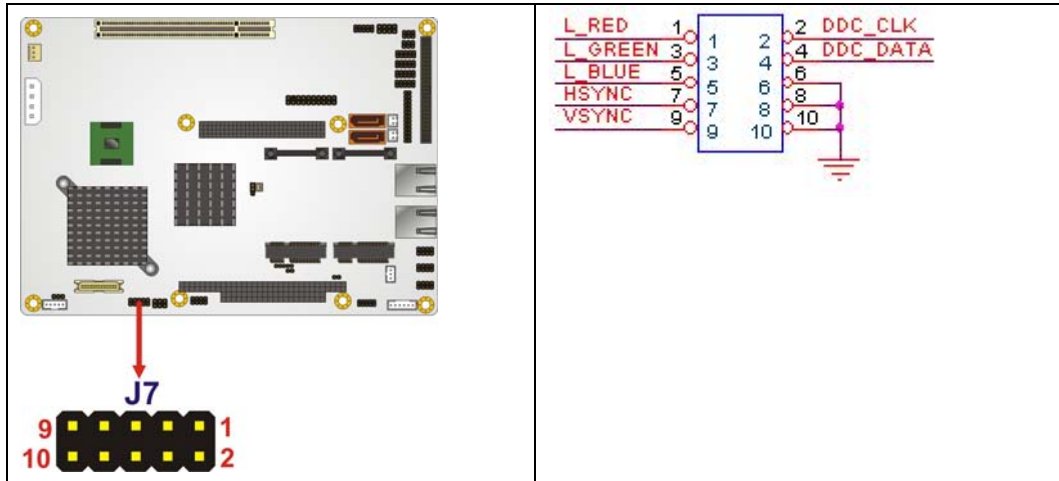

Figure 4-8: VGA Connector Pinout Locations
- CN Location:** See **Figure 4-8**